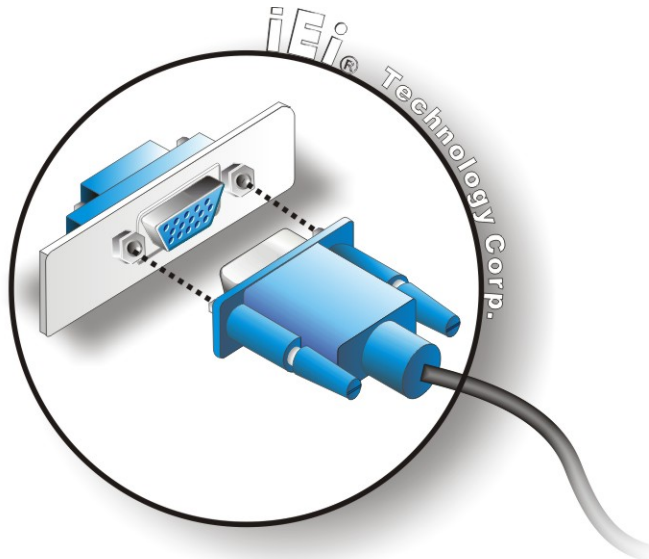

Figure 5-17: VGA Connector
Step 3: Insert the VGA connector Once the connectors are properly aligned with the insert the male connector from the VGA screen into the female connector on the WAFER-CX700M. See **Figure 5-17**.